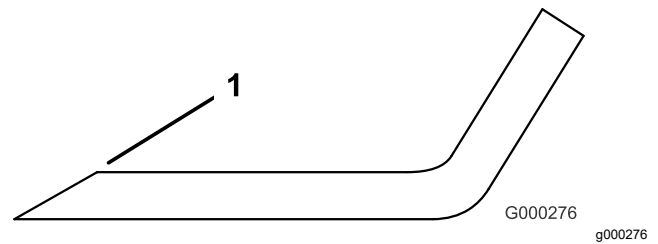

Figure 145
4. Sharpen the cutting edges if they are dull or nicked (Figure 145).